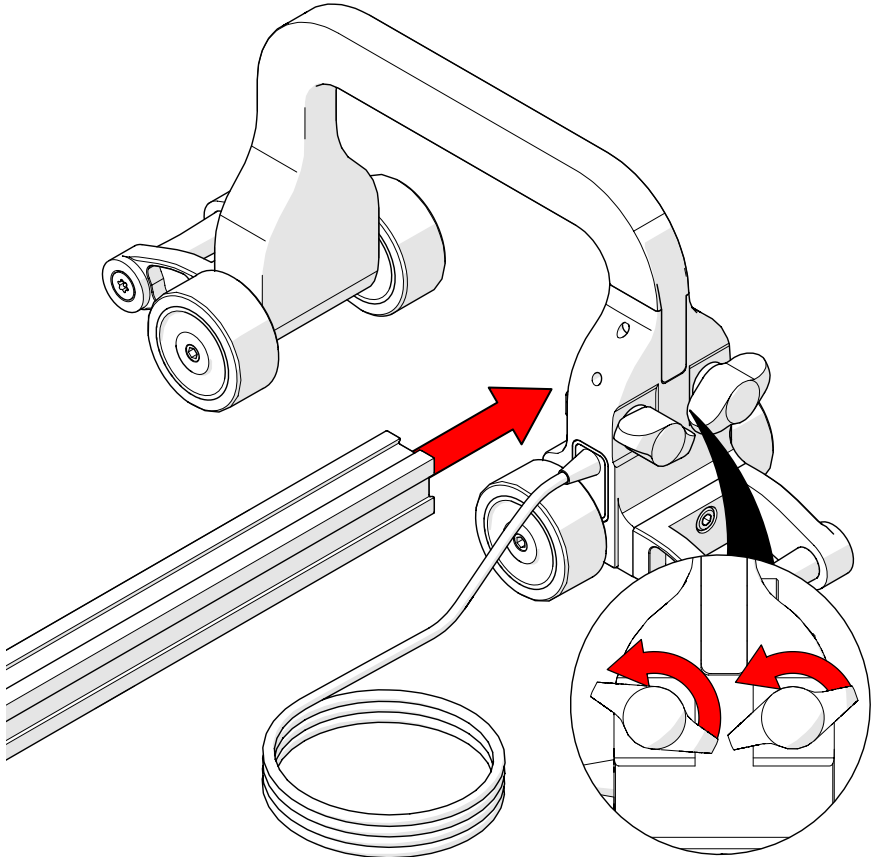

Fig. 20 - Loosen wing knobs and attach a frame bar
1. Loosen the black wing knobs counterclockwise (Fig. 20).